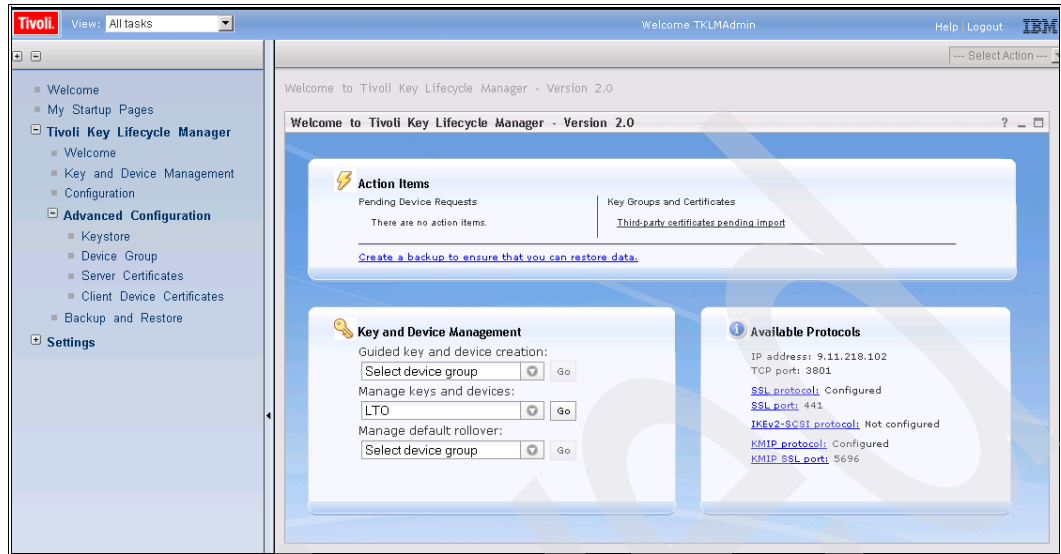

Figure 9-45 Welcome panel with manage keys and devices selected
2. On the Welcome panel select the LTO key group from the **Manage keys and devices** drop-down list and click **Go** (Figure 9-45).